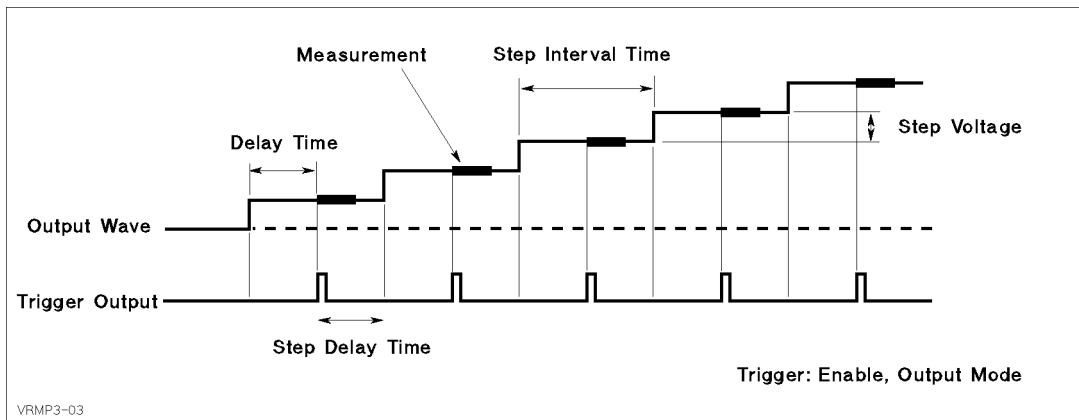

Figure 3-5. Output Sweep Voltage for Ramp Stress Test
- Constant step interval time (see Figure 3-5):
VRSWEP.MES enables the TRIG OUT function, and the sample program calculates and sets values so that the step interval time becomes constant as shown in Figure 3-5. The *step interval time* (*Step_time*) is the *delay time* (*Step_delay_t*) plus *step delay time* (*Step_keep_t*). Strictly speaking, the sample program calculates these as follows: